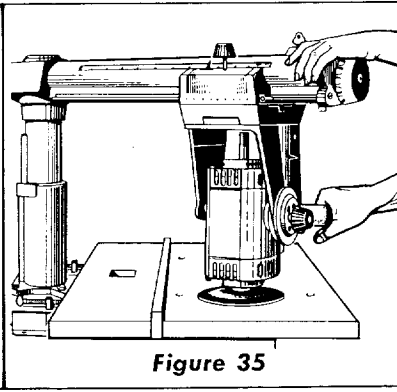

Figure 35
3. When sanding the table top (See Figure 35) or routing with the work stationary, the arm lock pin can be prevented from automatically indexing at  $0^\circ$  and  $45^\circ$  by rotating the arm latch handle about 6 turns counter-clockwise from the locked position.